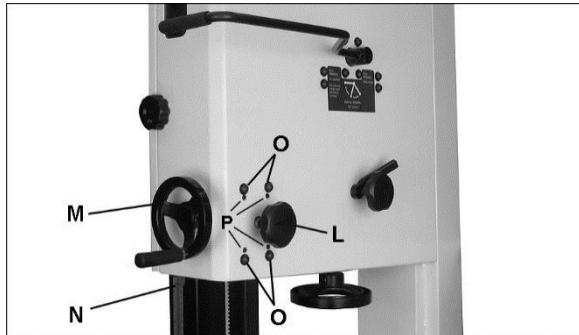

Fig 40
For adjustment, slightly loosen the screws (O, Fig 40) and turn the set screws (P) gently as needed.